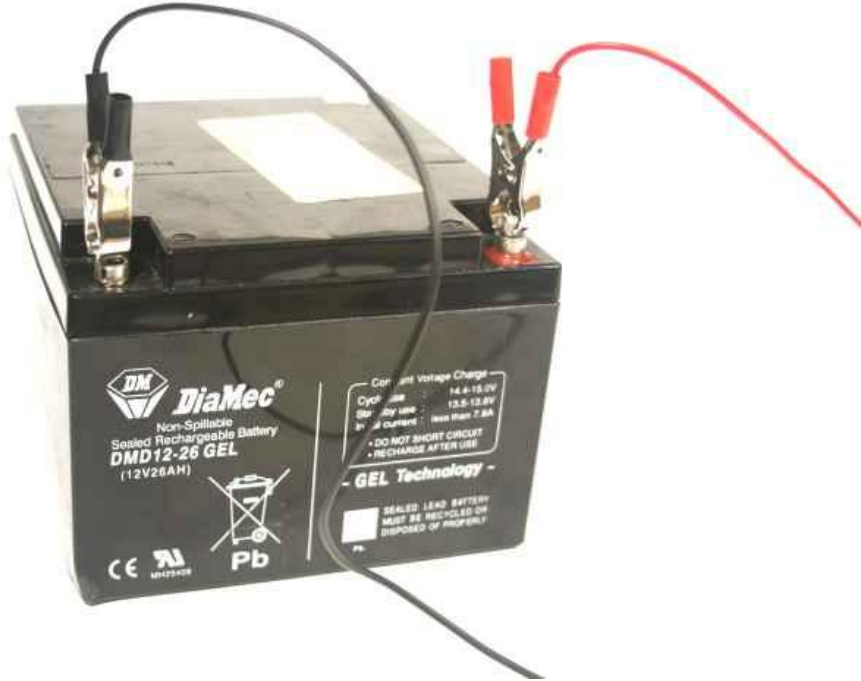

Figure 6 Battery HEXU-0008 to supply power to the HUB and eTargets
4. 12V 26aH battery HEXU-0008 (Figure 6, one per range).